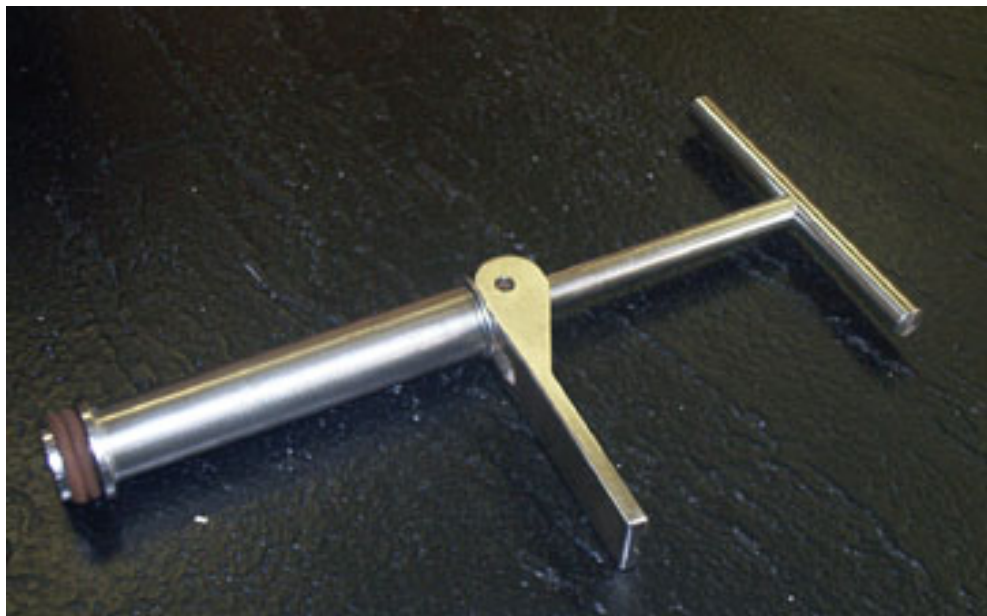

Figure 20: Seal Plug Removal Tool
4. Using the seal plug removal tool supplied, pull the seal plug out with a twisting motion (Figure 20: Seal Plug Removal Tool and Figure 21: Seating / Unseating Quartz Seal Plug).